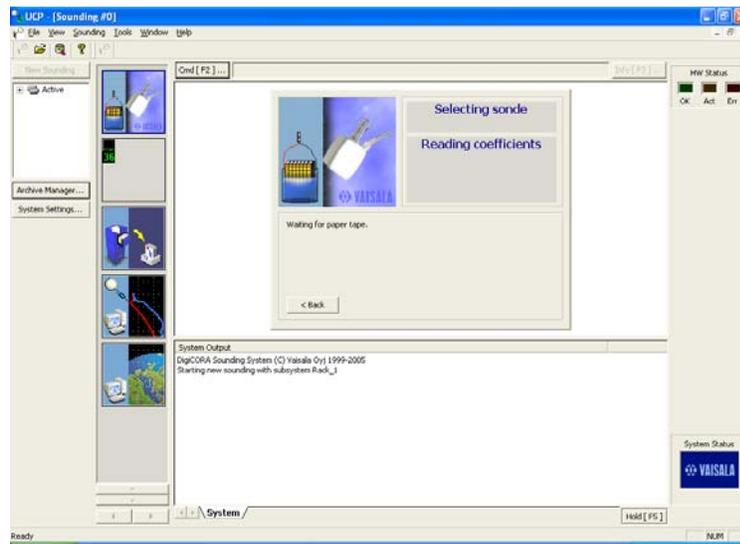

Figure 4
27. Click on “New Sounding” in the upper left portion of the DigiCORA III window to allow the system go through its start-up checks. It will take a few minutes to reach 100 %. See Figure 4 for the screen shot. (If “New Sounding” is not available, open the “Active” file and close the last sounding file.)